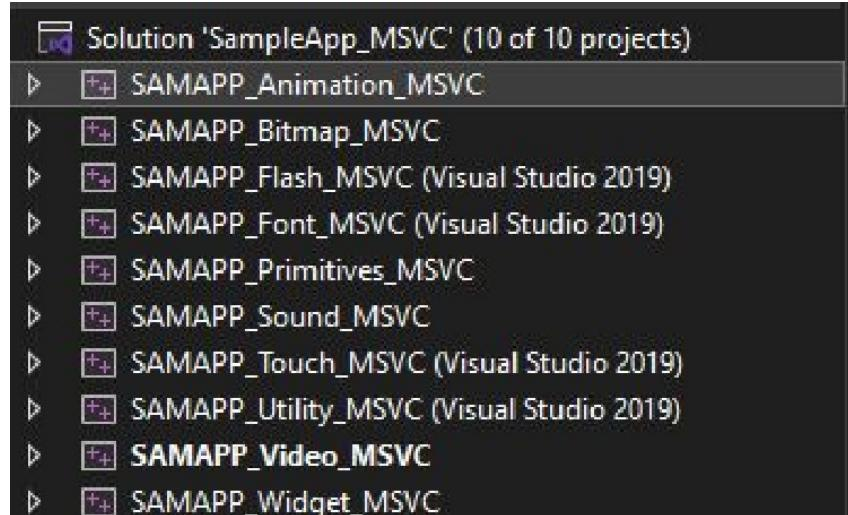

Figure 15 - Available Sample Applications
1. Choose your preferred sample application (refer to Figure 15).